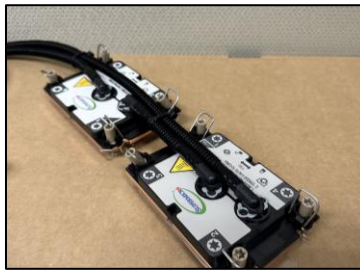

Figure 3 - Direct to Chip Cold Plate
1. **Direct to Chip (DTC) or (D2C)** – this method of cooling a CPU involves running a cold liquid (contained) over the top of a running chip. A thermal transfer material is used to conduct the heat from the top of the chip to a cold plate with the liquid flowing over the plate. The cooler liquid picks up the heat from the chip and is carried away to be cooled elsewhere. The cooler liquid is then returned to the chip in a closed loop system. A critical component of this system is the pump, which circulates the liquid and is placed directly on the chip to improve flow. Figure 3 shows a pump and cold plate which would be connected directly to a chip.